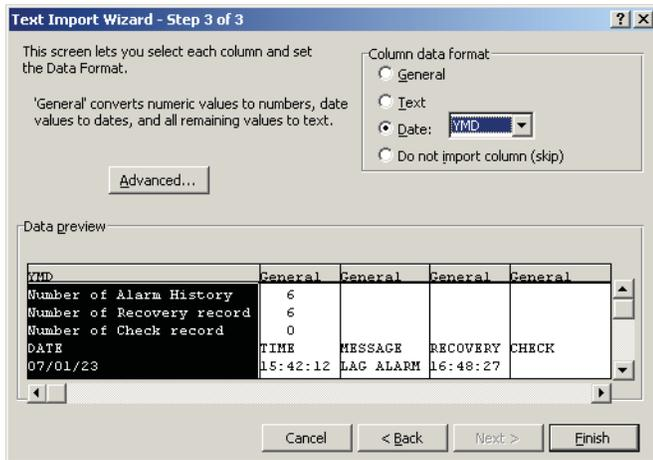

Fig E-36. Text import Wizard – Step 3 of 3 Screen
Step 3. Change the “Column data format” to “Date” and select “YMD” in the selection window next to “Date”. Then select “Finish” (Fig E-36).